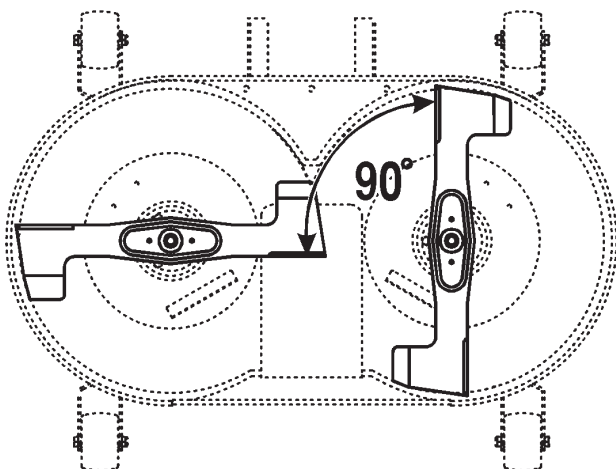

Figure 35
2. Position the blades 90 degrees to each other (Fig. 35).